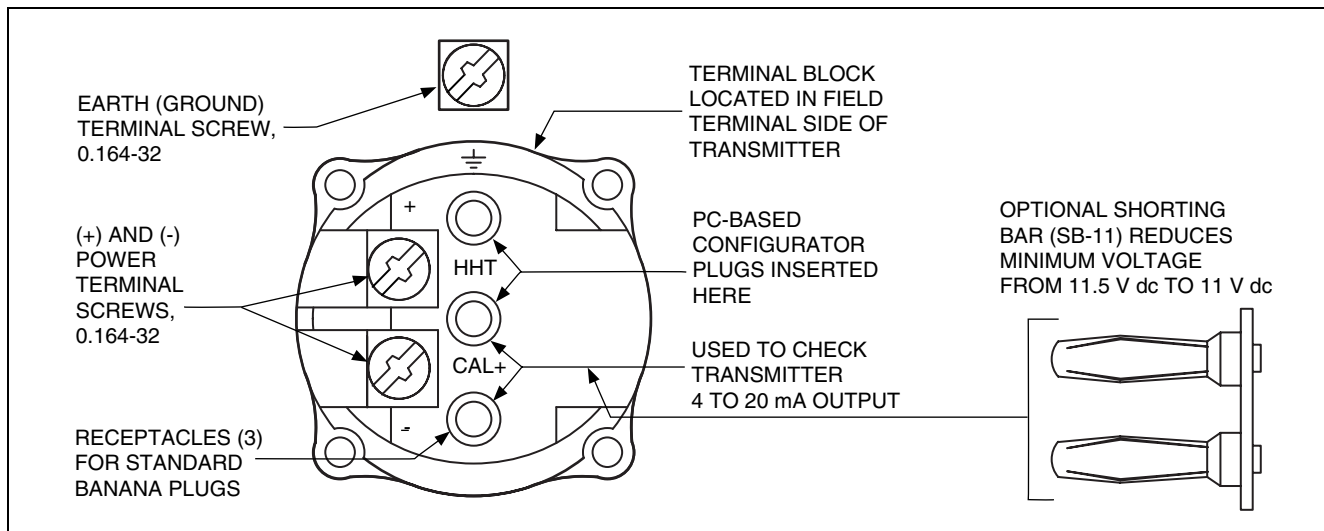

Figure 23. Field Terminal Connections
- (e) 11.5 V dc can be reduced to 11 V dc by using a plug-in shorting bar; see “Supply Voltage Requirements” section and Figure 23.
Field and RTD sensor wires enter through 1/2 NPT, PG 13.5, or M20 threaded entrances, as specified, on either side of the electronics housing. Wires terminate under screw terminals and washers on terminal block in the field terminal compartment. Unused entrance is plugged to insure moisture and RFI/EMI protection. See Figure 23.